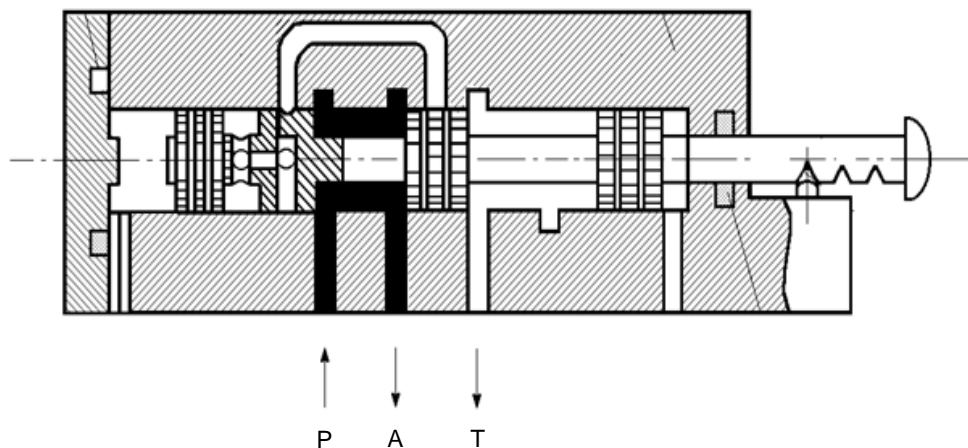

FIG 5.
B. In the position shown in Fig 5, the oil will flow freely from port "P" to port "A". Port "T" is blocked in this position.